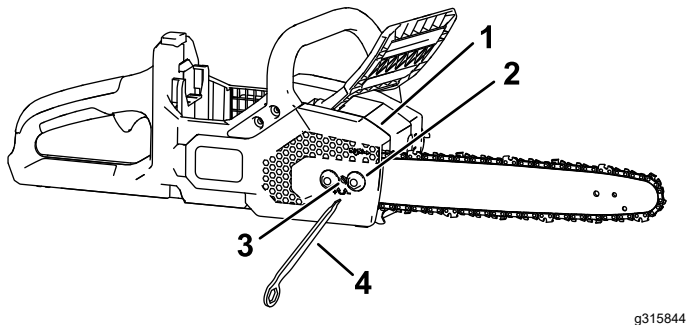

Figure 28
5. Using the onboard multitool, loosen the captive nuts on the side cover, but do not remove it (Figure 28).
7. Using the onboard multitool, adjust the chain tension, and then secure the side cover to the chain saw by tightening the captive nuts (Figure 28).
2. Remove the side cover by loosening the 2 captive nuts that secure the cover (Figure 28).
3. Loosen the chain by turning the chain-tightening screw counterclockwise (Figure 28).